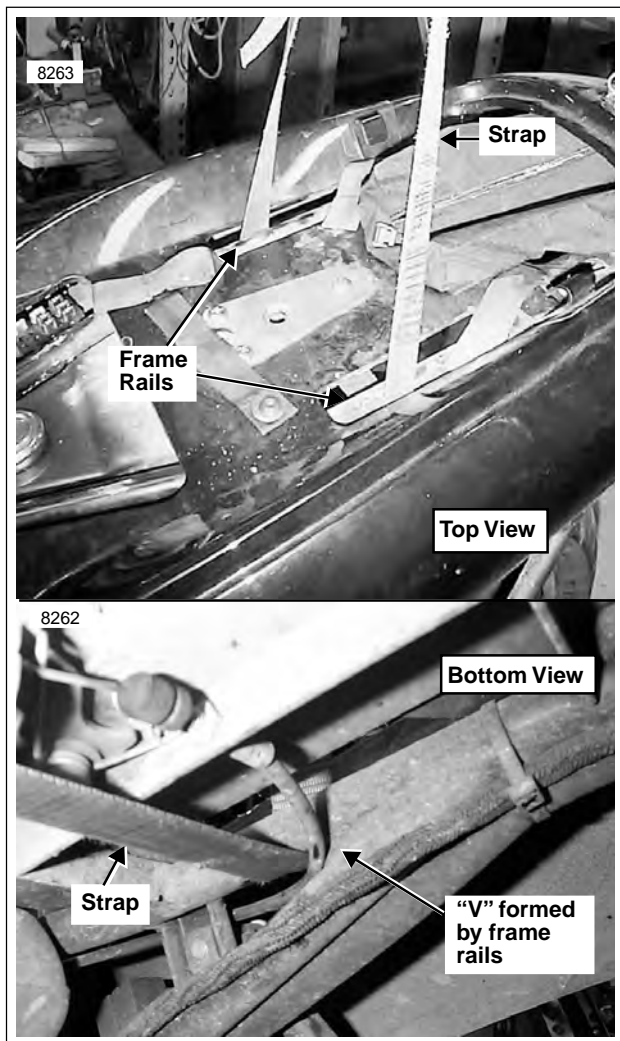

Figure 2-74. Floor Hoist
See Figure 2-74. Route strap under frame rails with tail section installed. Make sure strap is in "V" formed by frame rails to prevent rearward movement and that it does not pinch wiring harness, vent lines or cables.
6. See Figure 2-74. Strap tail section of frame to overhead beam or hoist and put slight tension on strap to secure frame assembly.